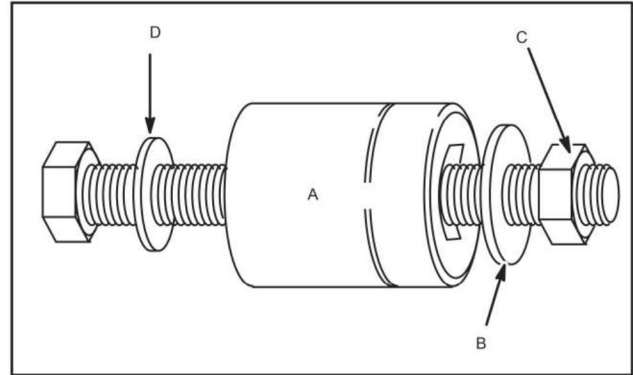

Fig. 10 – Bushing Removal Tools
5. The following tools are required to remove the governor shaft bushing, Fig. 10.